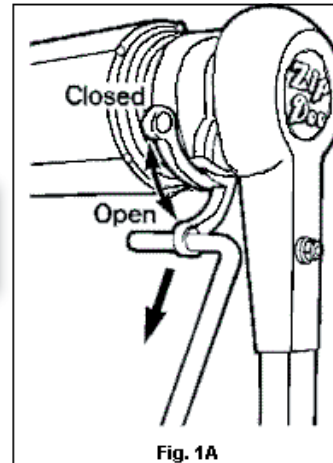
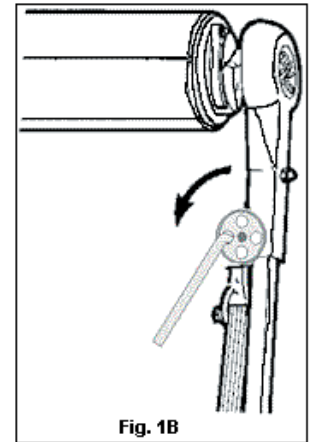

Fig. 1A
Fig. 1B
1. Insert the pull rod behind the Z-Lock lever and pull downward (Fig. 1A). This releases the awning. Then turn the clamp wheel counterclockwise and swing the assembly toward the center to free the hardware (Fig. 1B).
5. Lock the awning in place by reversing Steps 1 and 2 of the opening procedure (Figs. 1A and 1B).
NOTE: If you don't have clamp wheels (Fig. 1B), see Universal Operation later in this manual.